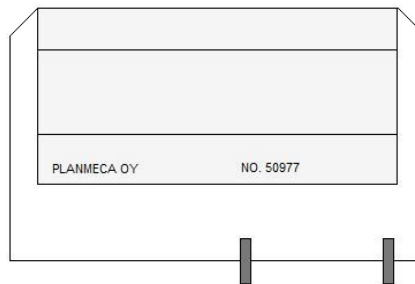

Figure 2
- Frankfort plane alignment tool (part number 50977) used with the ball phantom for checking the position of the Frankfort plane light. (Figure 2)